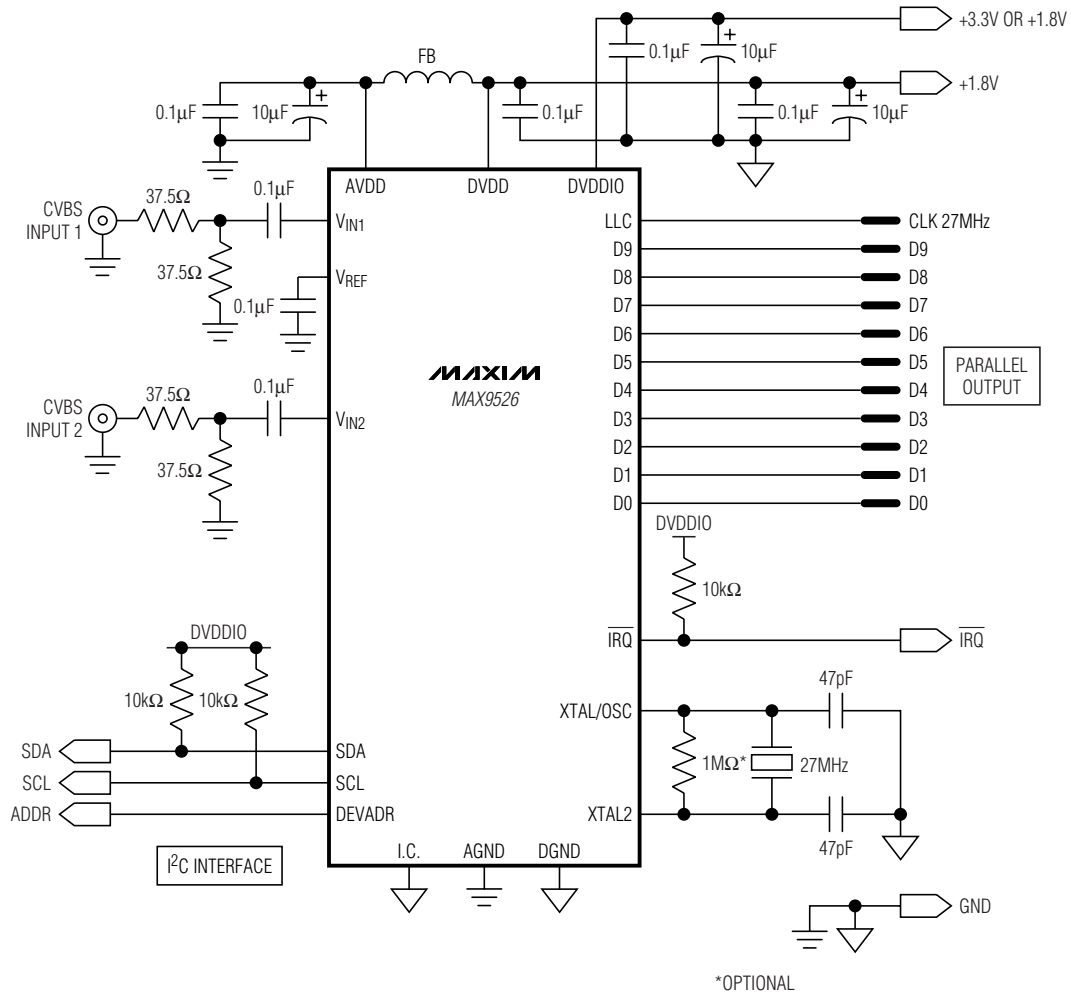

Figure 8. MAX9526 Typical Application Circuit with Additional Supply Isolation
For systems where additional power-supply isolation is required, the circuit shown in Figure 8 can be used. Additional supply decoupling is added and analog power (AVDD) isolation is increased with the use of a ferrite bead (FB). The analog ground connection (AGND) should be connected to a separate ground plane that has a small bridge to the main ground plane of the system. The video input termination ( $V_{IN1}/V_{IN2}$ ), video reference ( $V_{REF}$ ) decoupling, and AVDD supply decoupling should also be connected to the AGND ground plane.